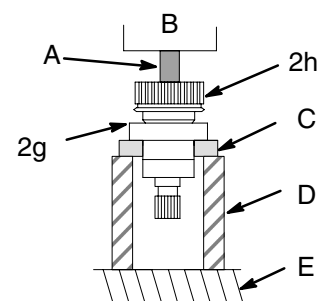

Fig. 6
4. **Using a hydraulic press**, place pieces of steel bar stock on the inner race of the large bearing (2g) and press the shaft through the hub and bearing. See Fig. 6.